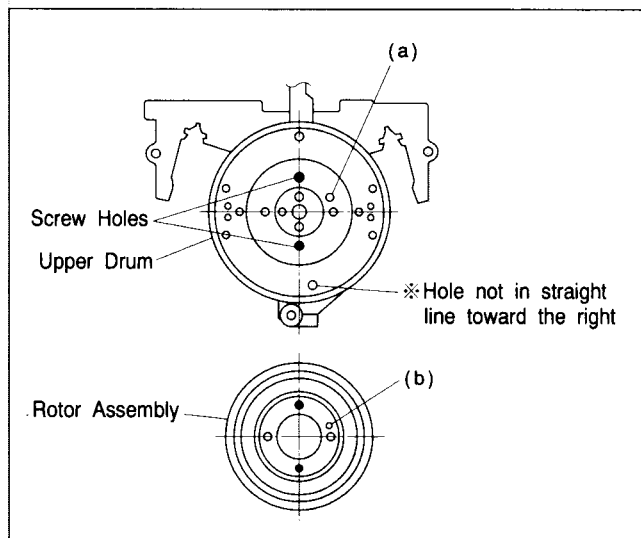

Fig. 2-5-24
- (3) Align the upper drum assembly and rotor assembly phase as indicated in Fig.2-5-24.